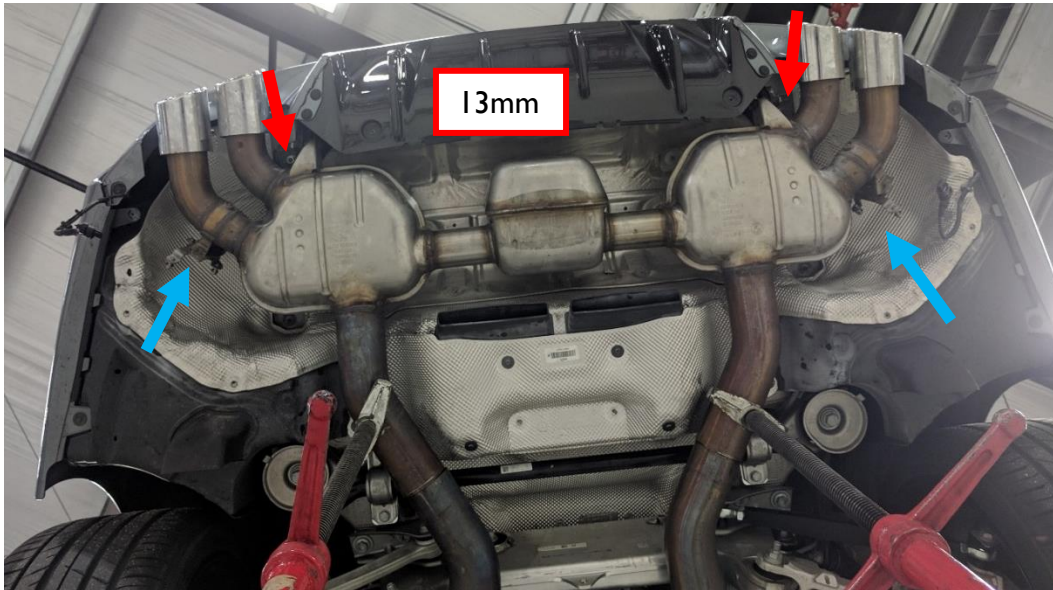

Figure 5
4. Support the exhaust, unplug the exhaust valve actuators (not attached in photo) and remove the exhaust hangers. The exhaust hangers are two 13mm bolts. See Figure 5.